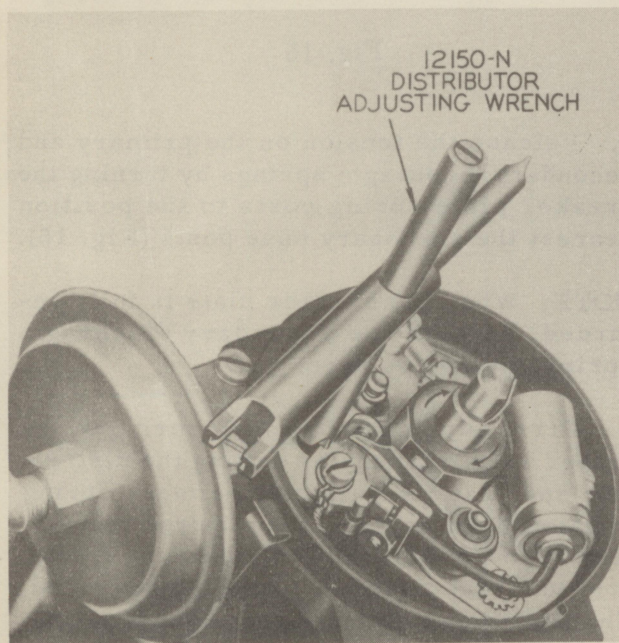

Fig. 16
4. Loosen the breaker arm and bracket assembly screws and insert a screw driver blade or the adjusting blade of Tool No. 12150-N in the adjusting slots and turn the blade to get the correct gap (Fig. 16). Then, tighten the breaker arm and bracket assembly screws.